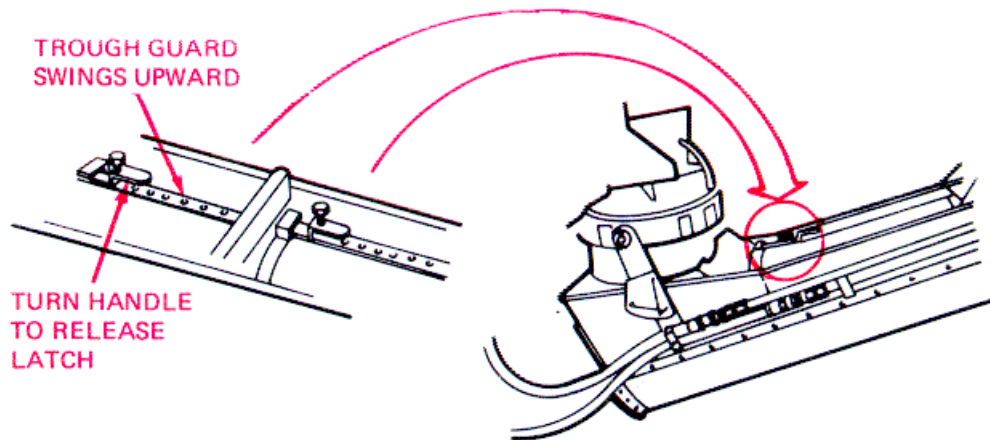

Figure 3-5. Trough Guards.
- (5) Wash the swivel ring area, paying particular attention to the rear belt wiper within the swivel ring (table 3-1, item 36).
- (6) Raise the trough guards (fig 3-5).